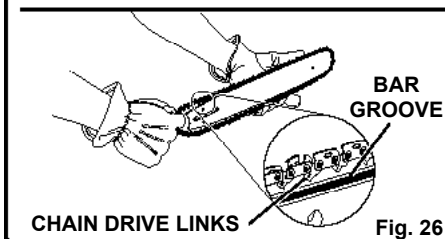

Fig. 26
- Place the chain drive links into the bar groove as shown.(See Fig.26)
- Position the chain so there is a loop at the back of the bar. (See Fig.26)